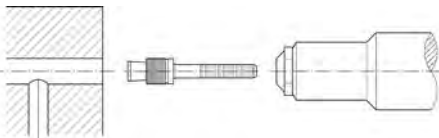

Fig. 1
- › Insert the plug in the tool, making sure that the sleeve is against the nosepiece (Fig. 1).